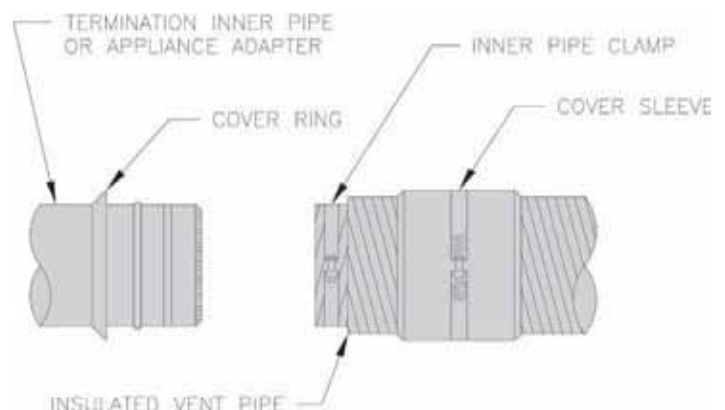

Figure 30: Vent Pipe Assembly to Vent Termination Inner Pipe and Appliance Adapter
3. Pull outer vent pipe back 1" to 2" from end of inner vent pipe and remove insulation; firstly, at vent pipe side to be connected to the vent termination; secondly, at vent pipe side to be connected to the appliance adapter. See Figure 30.
secondly, at vent pipe side to be connected to the appliance (boiler outlet collar) adapter. See Figure 30.
5. Slide supplied Cover Rings; firstly, over stop bead on vent termination inner pipe; secondly, over stop bead on appliance adapter. See Figure 30.